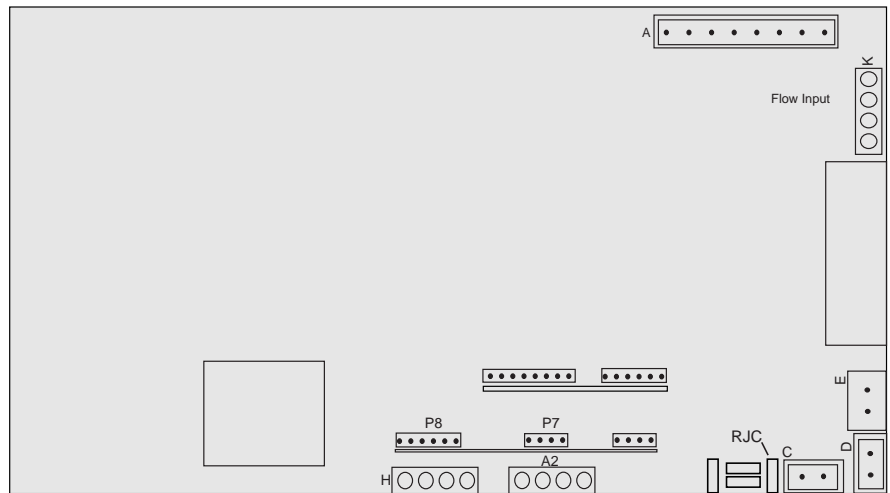

Figure-4
3. Press the **INDEX** key until you reach "INP". Use the **UP** and **DOWN** arrow keys until "--" shows in the right display. Press **ENTER**, and the two left digits of the left display will read "00" (See Figure-3). This is CAL 0. Place the RTD connector into slot D (see Figure-4). Adjust the decade box to 99.114 ohms. The calibration value of the M2B should be between 18CA to 22CF (in hexadecimal - see Table 1). Press the **ENTER** and **DOWN** arrow keys if the value is within the acceptable range.
5. Press the **UP** arrow key to go to CAL 2 (“2”). Move the RTD connector from D to E (See Figure-4) and adjust the Input down to 99.114 ohms. Make sure the calibration value is within the acceptable range (See Table 1) and press the **ENTER** and **DOWN** arrow keys simultaneously to accept.
7. Press the **UP** arrow key to go to CAL 4 (“4”). Place the millivolt connection into connector C (see Figure-4). Adjust your millivolt signal to 4.663 mV. Make sure the calibration value is within the acceptable range (see Table 1) and press the **ENTER** and **DOWN** arrow keys simultaneously to accept. Repeat this step for Cal 5 (“5”), adjust the input for 73.953mV.
8. Press the **UP** arrow key to go to Cal 6 (“6”). Place the wires for the remote setpoint input into the last 2 terminals of connector A2. See Figure-4. (+ to terminal 3 and - to terminal 4). Adjust your input to 1.224 mA. Make sure the calibration value is within the acceptable range (see Table 1) and press the **ENTER** and **DOWN** arrow keys simultaneously to accept.
12. Press the **UP** arrow key to go to CAL A ("AC"). Place load (1.5K ohm resistor) into terminals 1 and 3 of connector K, see Figure-4. Connect frequency generator and frequency counter across the load. Adjust the input to 50 Hz (41 Hz for 75 GPM). Make sure the calibration value is within the acceptable range (see Table 1) and press the **ENTER** and **DOWN** arrow keys simultaneously to accept.